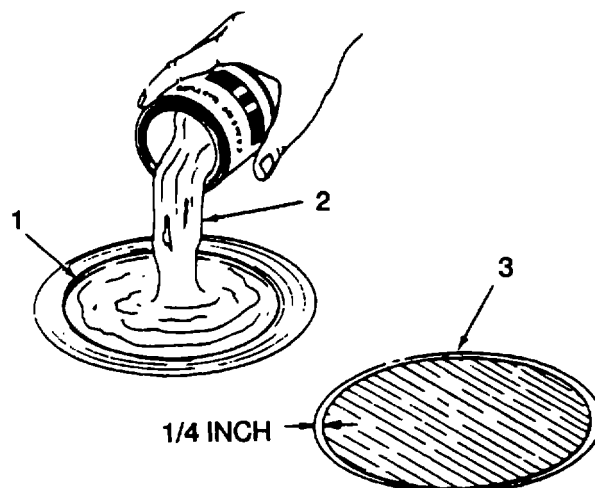

Figure 2-33. Filling Cavity with Adhesive Mixture
(h) Fill cavity of damaged area (1, figure 2-33) level with inner liner with adhesive mixture (2) to make a smooth continuous surface to apply barrier over. Smooth surface with gloved fingers wet with acetone (item 3, table 2-11). Remove any excess adhesive from buffed area using a dean cloth (item 16, table 2-11) dampened with acetone (item 3, table 2-11). Apply adhesive mixture to no more than 1/4 inch of O.D. of buffed area (3).